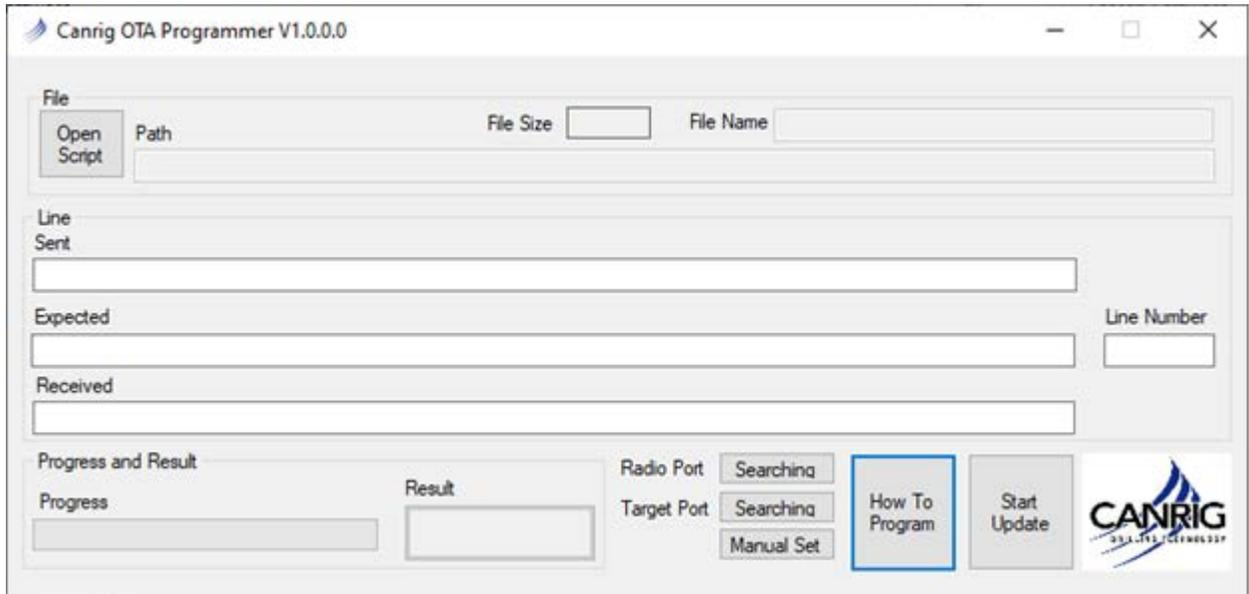

Figure 1: Canrig OTA Programmer main screen
1. Start the Canrig OTA Programmer software, the main screen will appear (Figure 1).